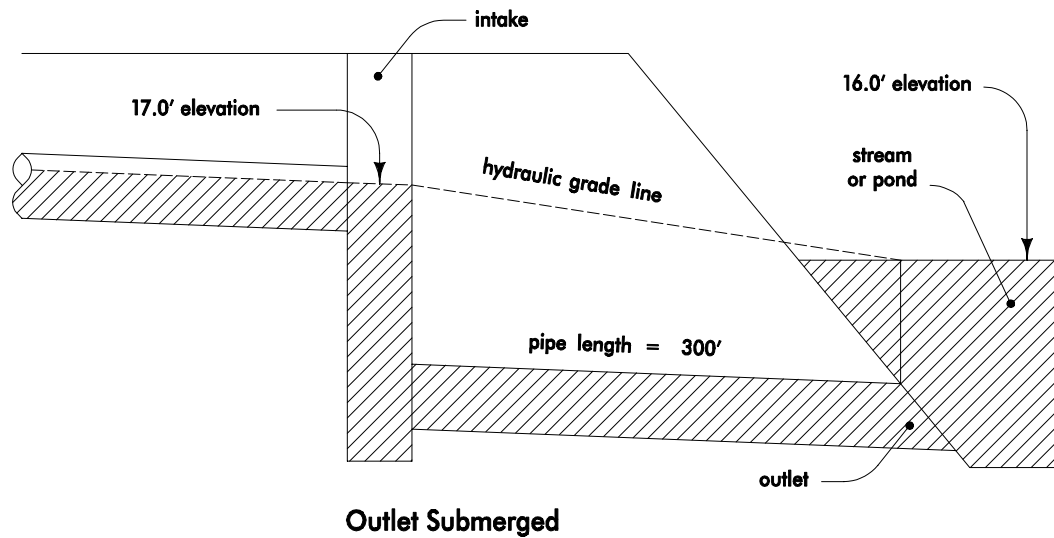

Figure 9: Storm sewer pipe with outlet submerged (Sample Problem 2).
As shown in Figure 9, the elevations of all parts of the pipe are below the high water elevation for the river. The designer can therefore assume pressure flow in all parts of the pipe.
Step 2 is to check the inlet capacity of Intake 4. Figure 9 in Section 4A-6 shows that water must be 0.44 feet deep to handle 9.8 cfs. Since the maximum allowable depth of water on the pavement is 1.0 foot, Intake 4 can handle all the water in the drainage area.